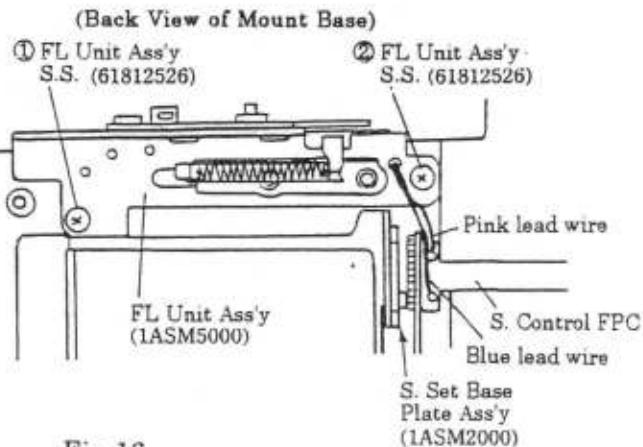

Fig.16
- 2) Unsolder the Pink and Blue lead wires (from FL Board) on the S. Control FPC. (See Fig. 16)
- 3) Tighten the FL Unit Ass'y Setscrews (61812526)  $\times$  2 in the numerical order as shown in Fig. 16.